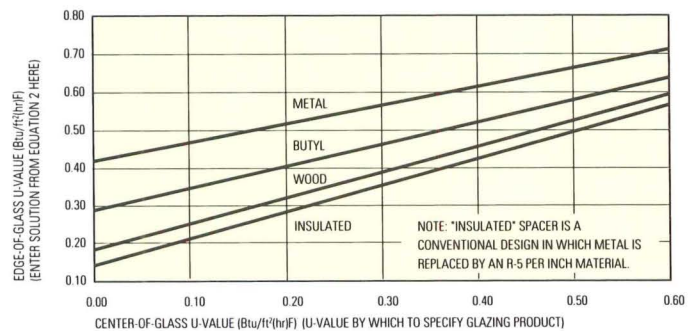

Figure 2. Edge-of-Glass U-values ( $U_{eff}$ ) at 1/2" in from Sightline.
Designers may wish to restrict condensation to a much narrower band around the perimeter. The perimeter is colder than the center of the glass because the edge spacer is a thermal bridge; in effect, the glass behaves as if its U-value increases from the COG to the sightline. The effective U-value  $U_{eff}$  at any distance from the sightline is a function of the conductance of the spacer and the COG U-value. Researchers at Lawrence Berkeley Laboratory have used computer methods to calculate  $U_{eff}$  at distances of 1/4 and 1/2 inch from the sightline for different spacer types (Figures 2 and 3). Edge condensation can be controlled by treating the U-value obtained by Equation 2 as  $U_{eff}$ , and finding the corresponding COG U-value by which to specify a glazing or window from Figure 2 or 3.
Figure 2. The required U-value is 0.08 for a metal spacer, just under 0.3 for butyl, 0.39 for wood, and 0.45 for an insulated spacer. There are no (thermally unbroken) metal spacer windows with a U-value as low as 0.08, while 0.3, 0.39, and 0.45 can be met by a variety of low-double and triple glazings.
*P/A would like to thank Dariush Arasteh of Lawrence Berkeley Laboratory and Nan A. Byars, on leave from California Polytechnic University to LBL, who helped conceive the new method presented here, and who prepared Figures 2 and 3 expressly for P/A's readers.*